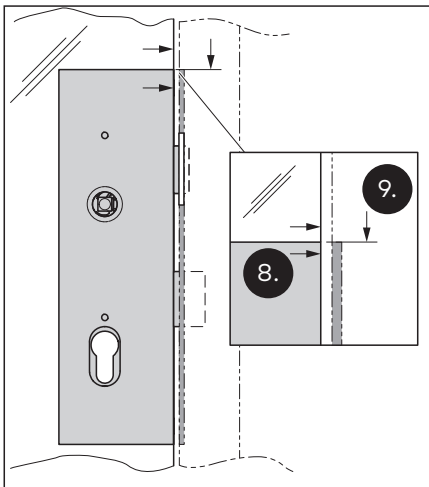

Fig. 17 Align the lock mortise and the latch
- Align the lock mortise so that it is vertically flush with the glass edge (Fig. 17).